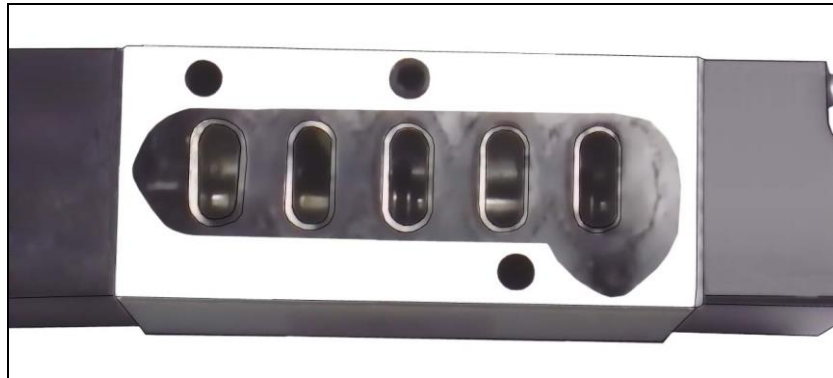

Figure 15
13. Rotate plate and using a small blade-type screwdriver, remove push-on ring (26). Using an O-ring removal tool, remove O-ring (24). See Figure 15.